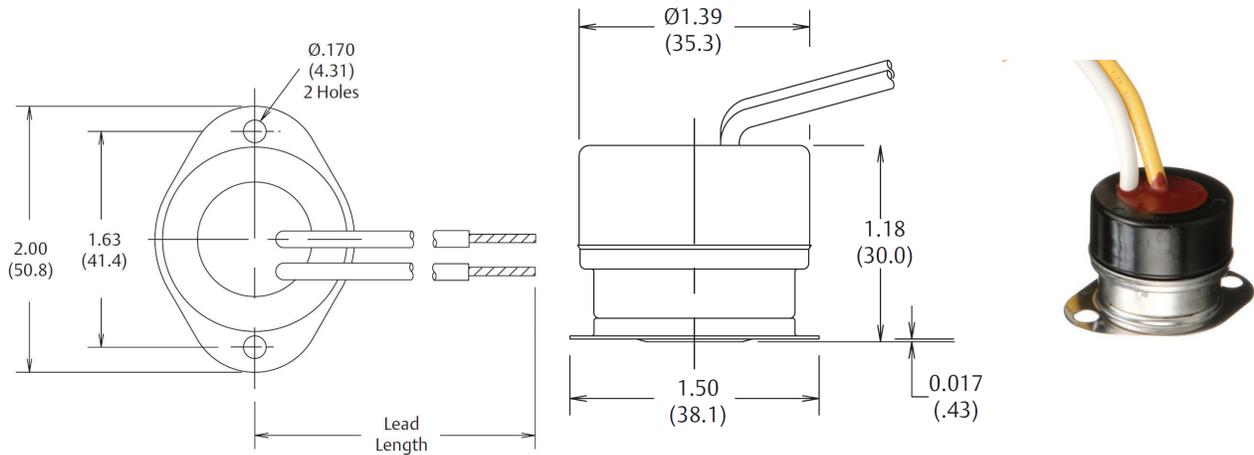

Figure 1
**Surface Mounting** – The surface mounting configuration positions the bimetal disc sensing element firmly against the mounting surface, thereby sensing the actual mounting surface temperature (see figures 1 and 2).
**No Mounting Flange** – The 14T is available without a mounting flange for customers who wish to design their own mounting method. Dimensions as shown in figures 1 and 2, except there is no mounting bracket shown.